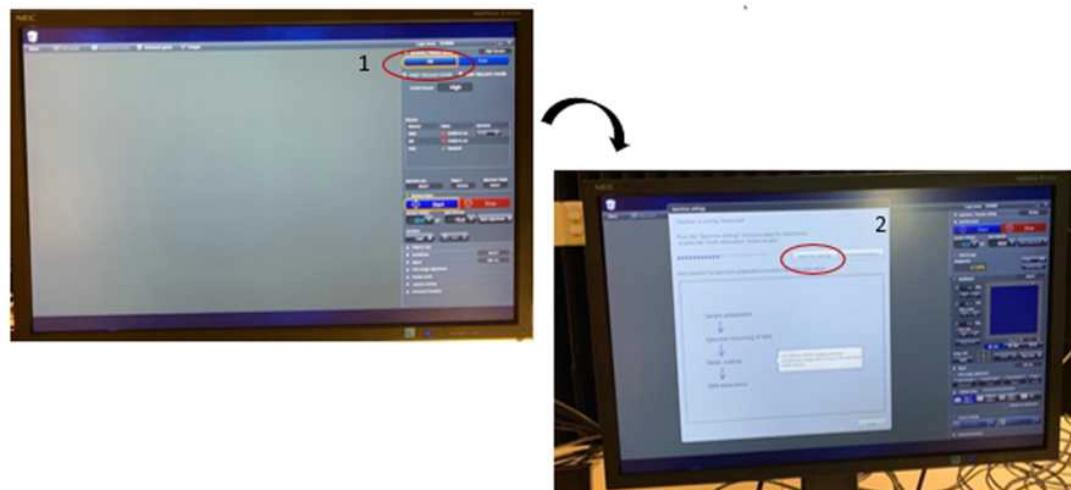

Figure 4. Set up equipment
- The equipment is always under high vacuum. Letting air in the equipment is necessary to open the chamber and place the sample. To do this, click Air in the Specimen/vacuum setting (Figure 4)
- Click Specimen settings in the popup window (See Figure 4)